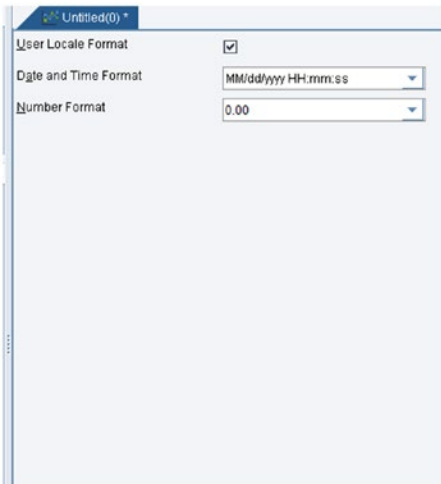

Figure 7-50. *i5sps chart formatting*
- *i5SPC chart formatting*: This function is available to configure the formatting properties for SAP MII SPC charts. See Figure 7-50.